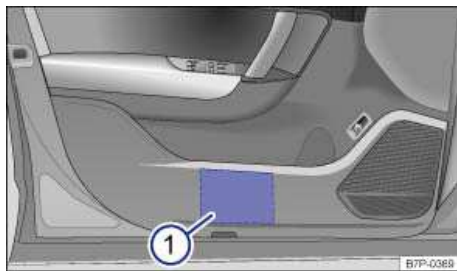

Fig. 117 In the driver door: Storage compartment.
There is a storage compartment in the driver door. ⇒ fig. 117 (1).